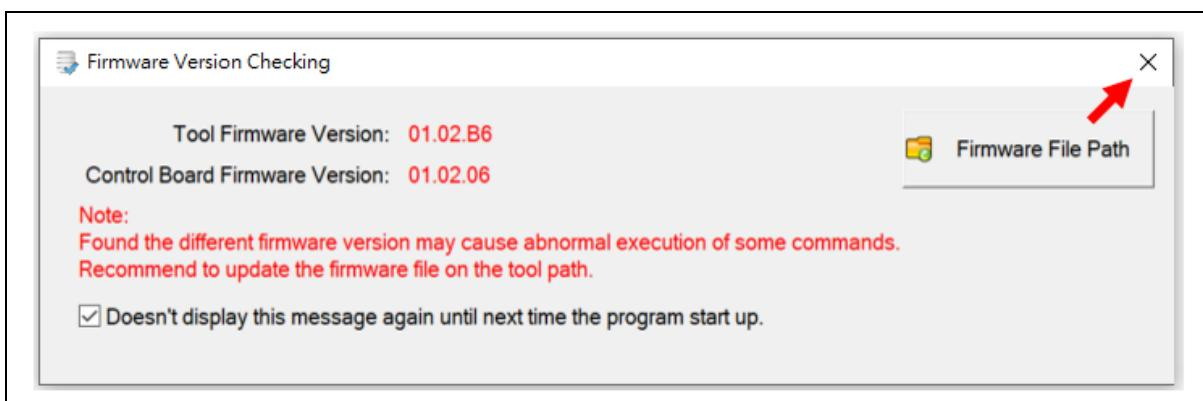

Figure 3-5 NuvotonAudioGUI Operating Step (2)
2. After clicking [OK], NuvotonAudioGUI will automatically read the connection status and verify the firmware version of the NU-NAUSB212C. If the firmware version is outdated, the version reminder window shown in Figure 3-5 will pop up. Users can ignore this message and continue operating NuvotonAudioGUI by clicking [X] on the top-right corner.